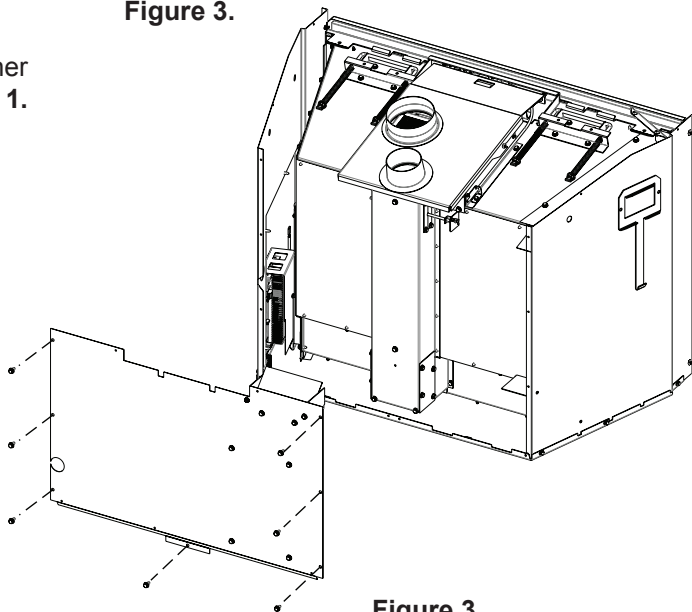

Figure 3
4. Remove 7 screws and remove outer rear assembly. Discard this assembly, it will not be needed. **See Figure 3.**